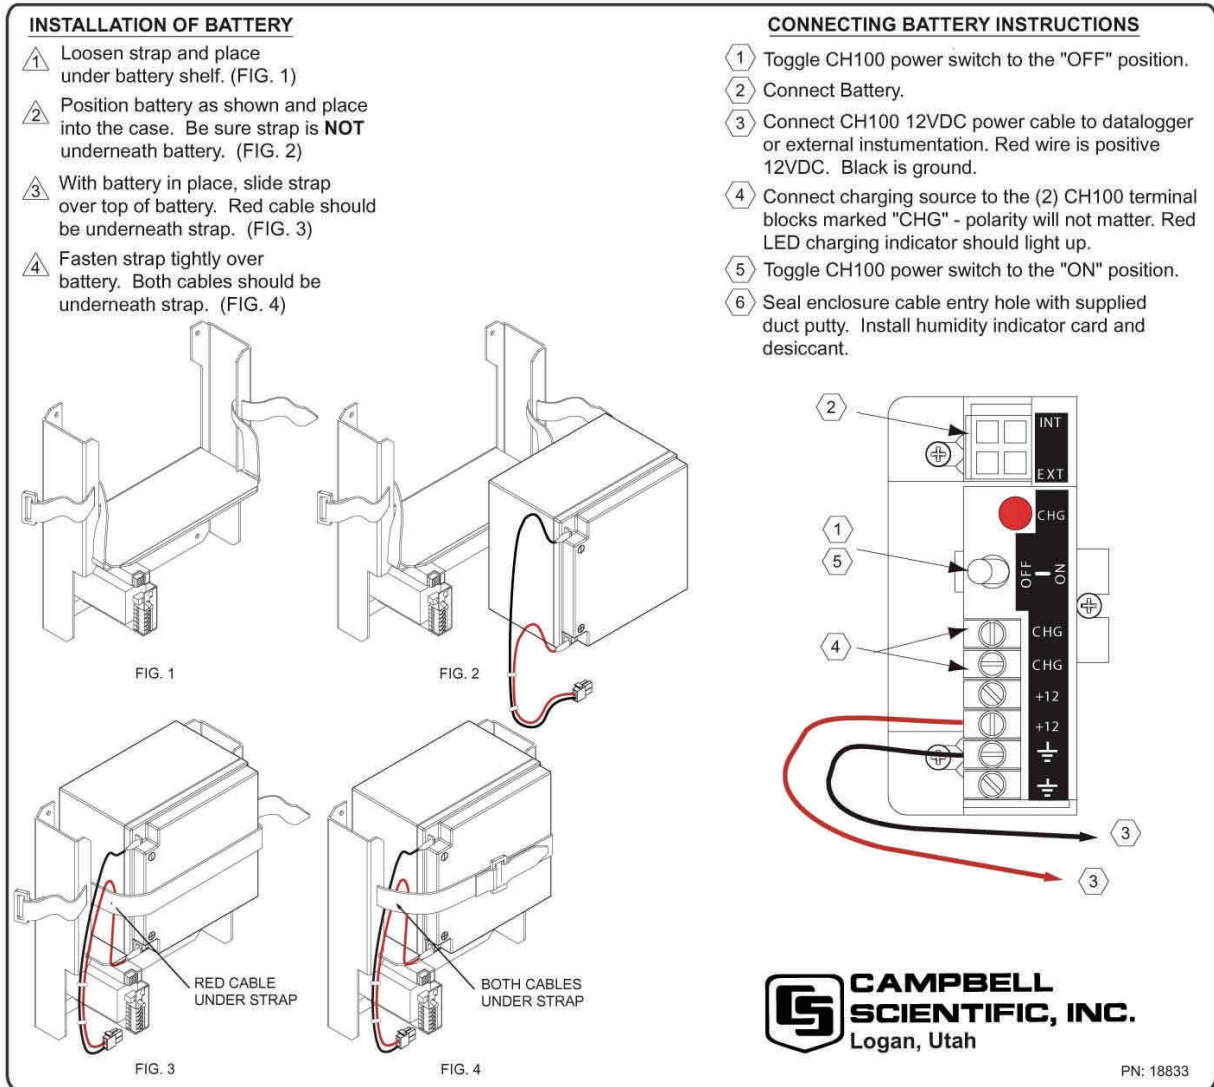

FIGURE B.2-7. Procedure for installing and connecting battery
13. Follow the Installation of Battery procedure provided in Figure B.2-7. Plug the battery into the connector on the CH100 marked "INT".